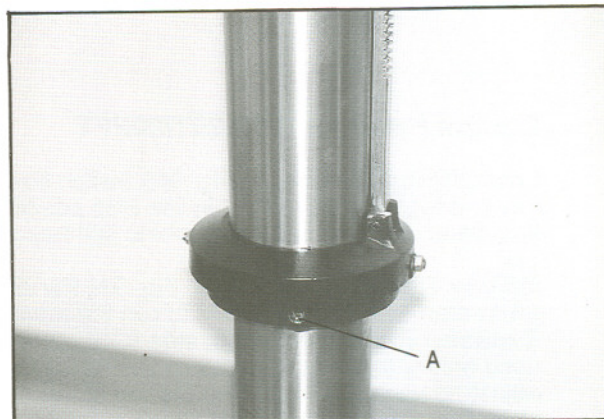

Fig. 7
3. Loosen two sets screws on the bottom rack ring (A, Fig. 7).